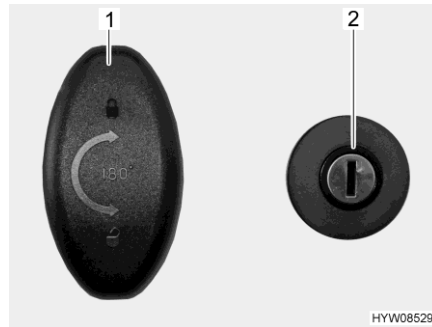

Fig. 57 Door lock (garage door)
- Put the key in the locking cylinder (Fig. 57,2) and turn in a clockwise direction. The central locking system is unlocked.
- Turn the lock handle (Fig. 57,1) through half a rotation in a clockwise direction and open the garage door.
- Turn lock handle (Fig. 57,1) one half turn in an anticlockwise direction.
- Insert the key in the locking cylinder (Fig. 57,2) and turn it in an anticlockwise direction. The central locking system is locked.